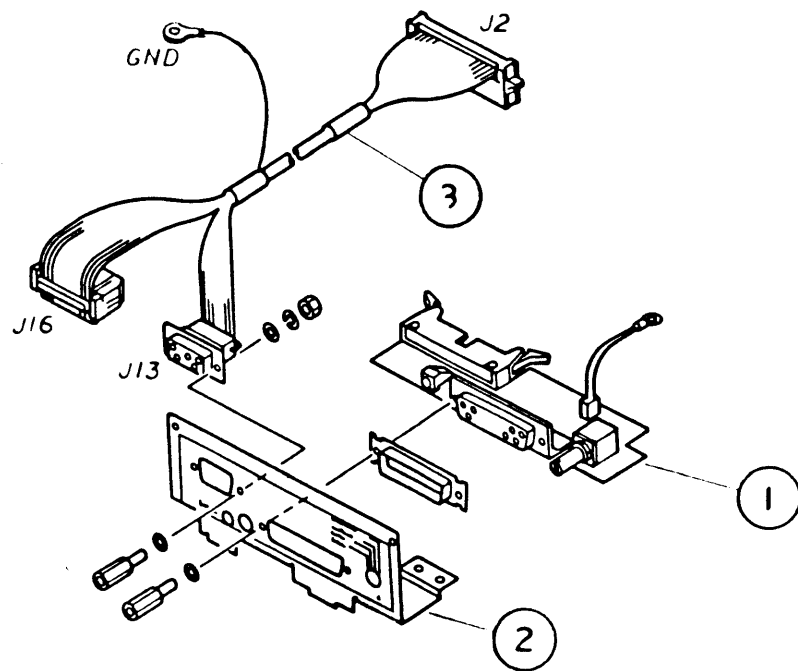

FIGURE 14
□ LASERWRITER – MOUNTING CONNECTOR PLATE (Figure 14)